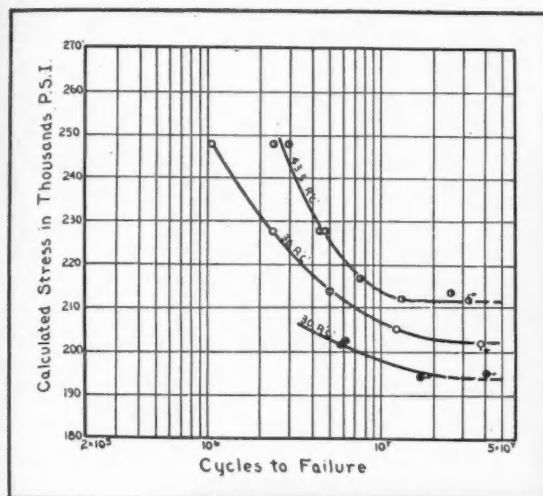
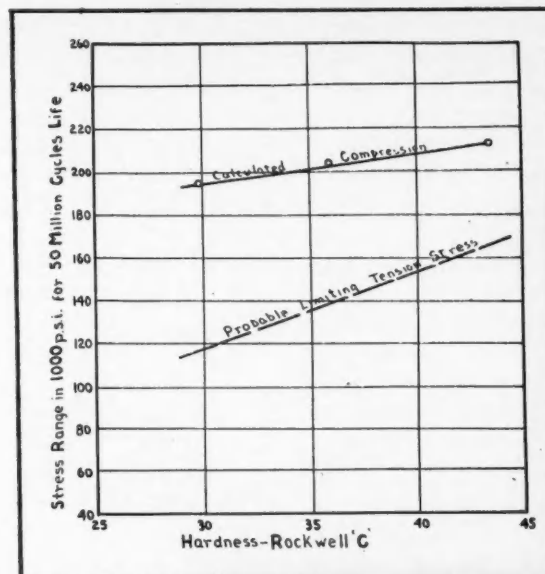

Fig. 6—Stress-life curves of SAE 4645 steel gears
Fig. 7—The calculated compression and probable limiting tension stress ranges for 5×10^6 cycles life—loading 0 to maximum
All tests were conducted at 215 F in the manner of fatigue tests in order to develop the stress life relation and to establish, if possible, the stress below which the gear life is indefinitely long. The data are contained in Table I and the derived stress-life curves at each level of hardness are shown in Fig. 6. These have the shape characteristics of fatigue curves. When the indicated stresses for lives of 5×10^7 cycles are plotted against the hardnesses of each group, the curve of Fig. 7 results, which again is characteristic of fatigue in that higher stresses for indefinite lives
The stresses calculated are compressive. According to Almen (2) fatigue failures do not result from repeated compressive stresses but only from repeated tension stresses. The tension stresses which cause failure in these gear tests must be of a lower magnitude than the calculated compressive stresses. An idea of the values of the maximum safe repeated tension stresses for steels of these hardnesses is obtained from the lower curve of Fig. 7. This is the statistical